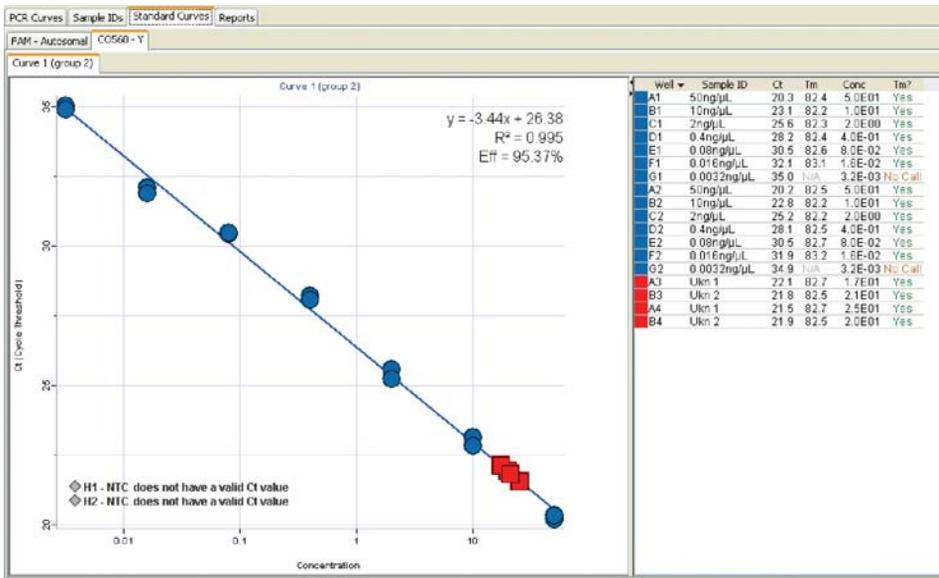

Figure 28. The Standard Curves tab.
3. Select the Standard Curves tab to view the standard curves (Figure 28). One subtab shows the autosomal (FAM) standard curve, and a second subtab displays the Y (CO560) standard curve. The default display shows the log concentration on the X axis and cycle threshold on the Y axis.
4. View DNA concentrations for all samples, including the unknown samples, in the table next to the standard curve graph (Figure 28). The calculated concentrations can also be viewed in the sample details report (Section 8.H).